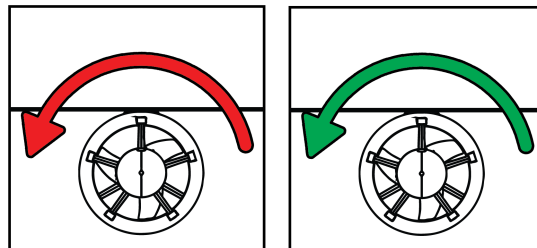

Figure 20: Hydrone™ RCV Prop Rotation
- Motor must rotate counterclockwise(CCW) (Figure 20)